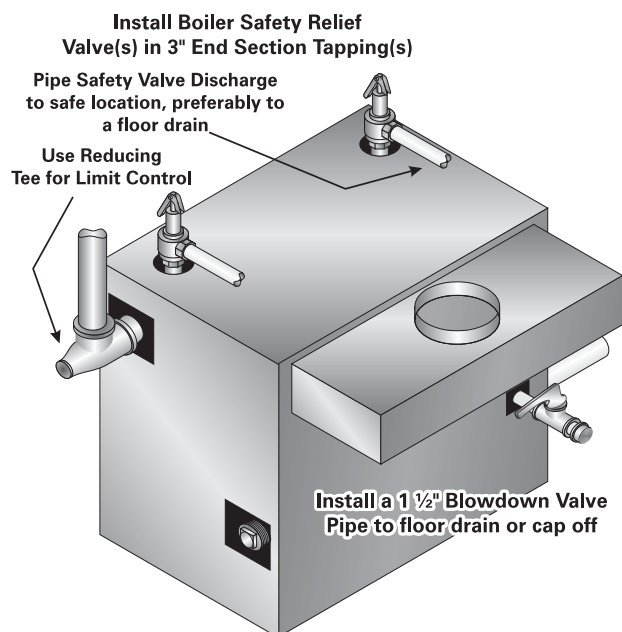

Figure 8.1: Safety Relief Valve Piping
1. Install a 1-1/2" full port ball valve in one of the tappings provided at the lower back of the end sections. See Figure 8.1.